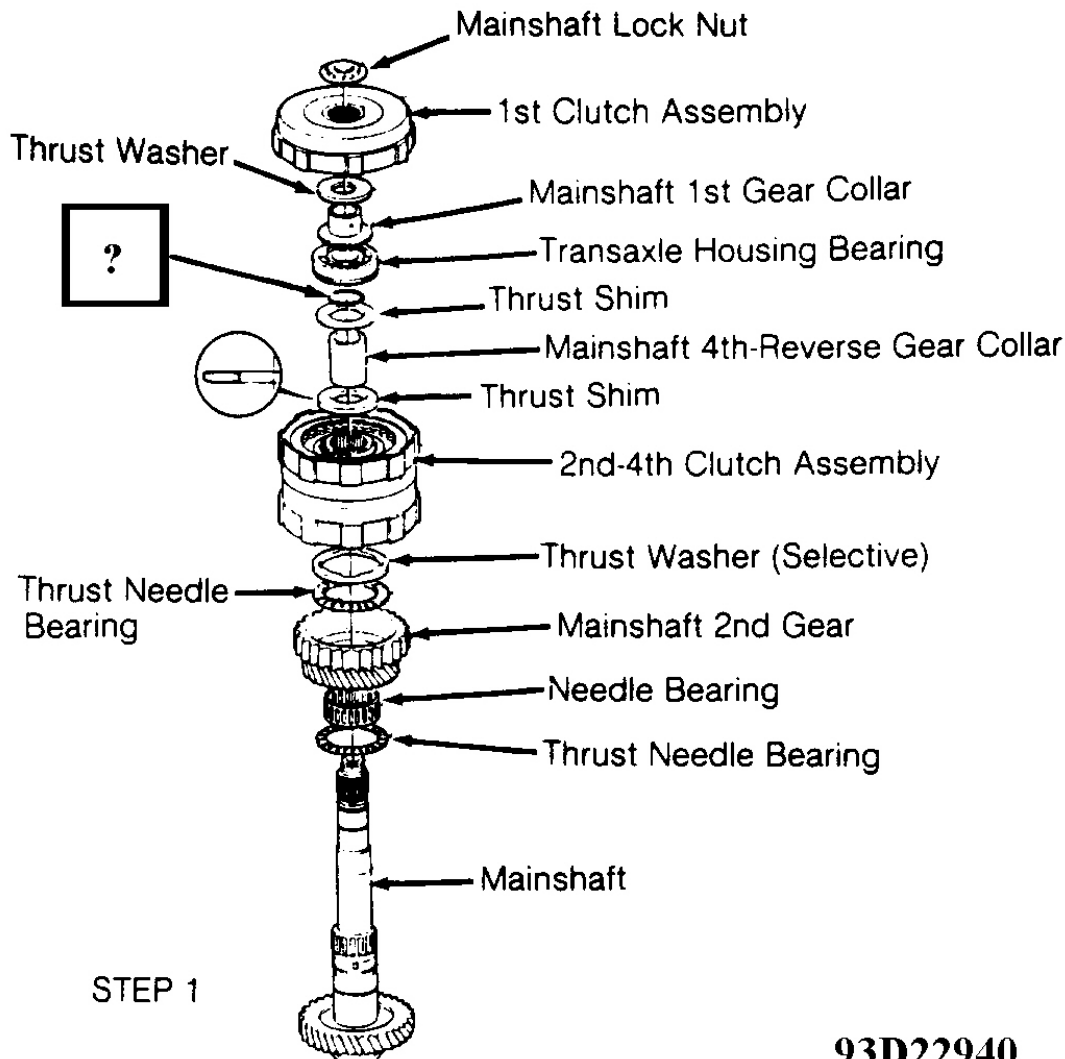

Fig. 19: Checking Mainshaft 2nd Gear-To-3rd Gear Clearances
1. To check mainshaft 2nd gear-to-3rd gear clearance, install proper components, except "O" rings, on mainshaft. See **Fig. 19** .
3. Using feeler gauge, measure clearance between mainshaft 2nd gear and mainshaft 3rd gear. See **Fig. 19**. Replace thrust washer, located between mainshaft 2nd gear and 2nd clutch, if mainshaft 2nd gear-to-3rd gear clearance is not .002-.005" (.05-.13 mm). Different thickness thrust washers are available. See **THRUST WASHER SPECIFICATIONS** table. Replace thrust washer, and recheck 2nd gear-to-3rd gear clearance.